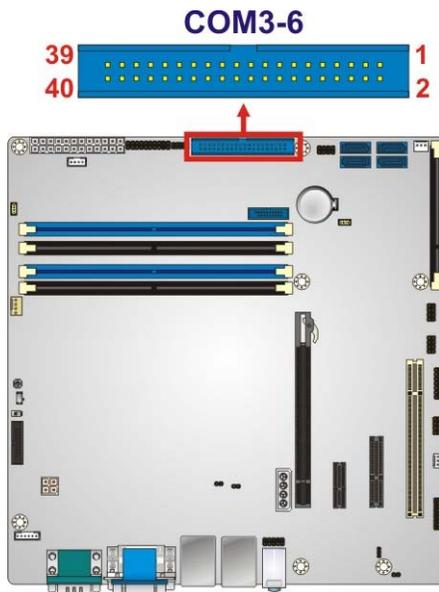

Figure 3-20: Serial Port Connector Location
- CN Location:** See **Figure 3-20**